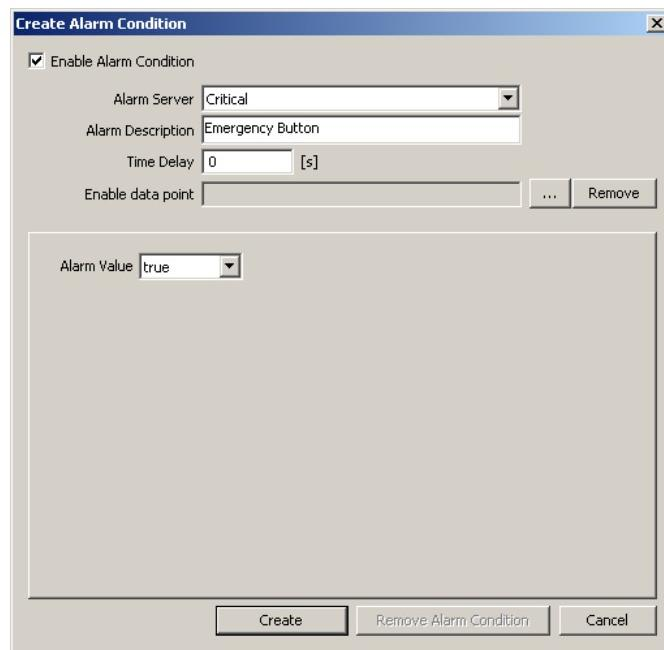

Figure 124: Alarm Condition for a Binary Data Point.
5. For a binary data point, the dialog as shown in Figure 124 appears. Select the **Alarm Server**. Optionally, enter an **Alarm Description**. If left empty, the description of the data point is used. Enter a **Time Delay**, after which the condition is evaluated. Select the **Alarm Value** which triggers the alarm.